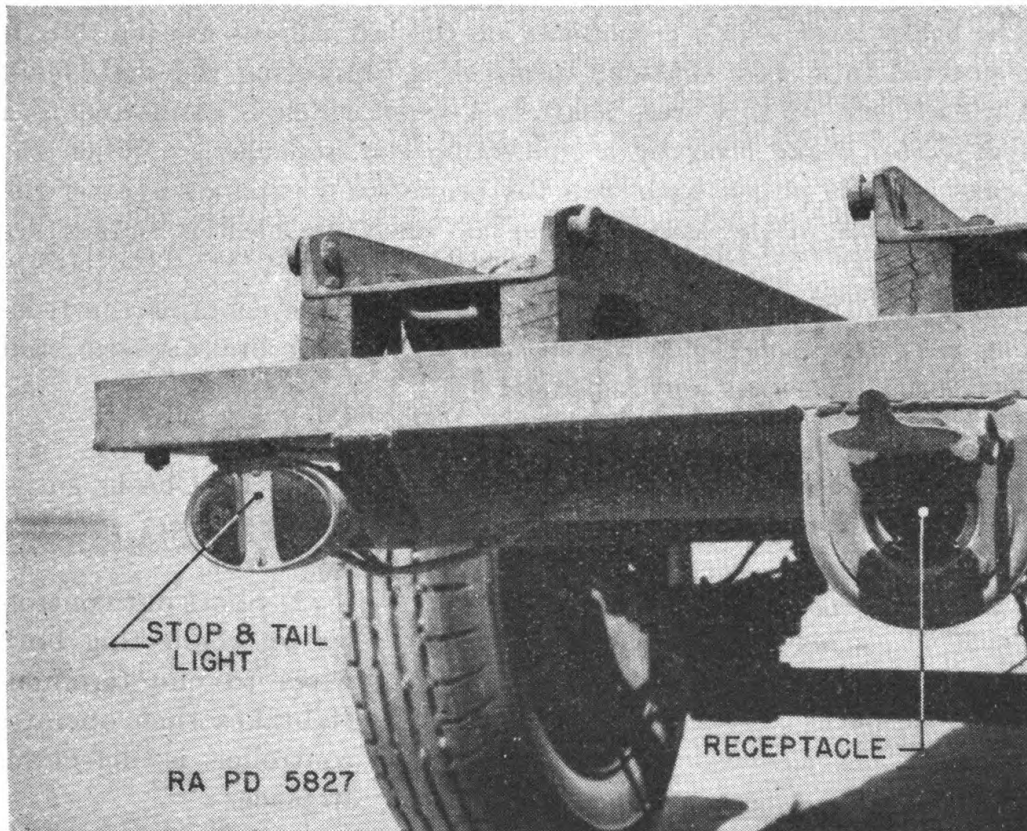

FIGURE 12.—Stop and taillight, and receptacle.
(5) Check prime mover and trailer receptacles.
*b. Replacements.*—(1) The taillight and stoplight assembly (fig. 12) is removed by removing two nuts from the bolts which extend through the mounting flange, and disconnecting the wiring. It is reattached by reconnecting the two wires and bolting the assembly securely to the flange.
(2) Bulbs are replaced as follows: Remove the two screws in the lamp door and lift off the door. Grasp either bulb between fingers, rotate counterclockwise about a quarter turn, and withdraw the bulb. Replace in the reverse order of removal.